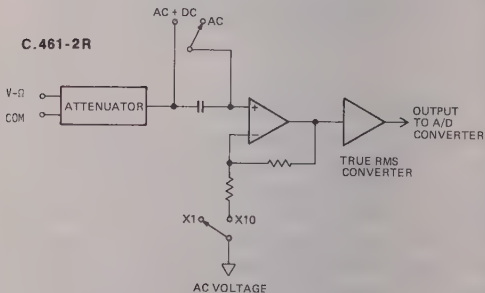

FIGURE 5-2.
5.2.2 The basic DC voltage circuit is shown in Figure 5-2(A). The DC voltage being measured is connected to the V- Ω and COM jacks, attenuated according to the range selected and converted into digital information by the A/D Converter.
5.2.5 The basic AC voltage measurement circuit is shown in Figure 5-2(B). The AC voltage being measured is connected to the V- Ω and COM jacks, attenuated according to the range selected and applied to the amplifier. The output of the amplifier is converted into DC voltage by an active rectifier (461-2) or by a true RMS converter (461-2R) and the resulting DC voltage is measured by the A/D Converter.